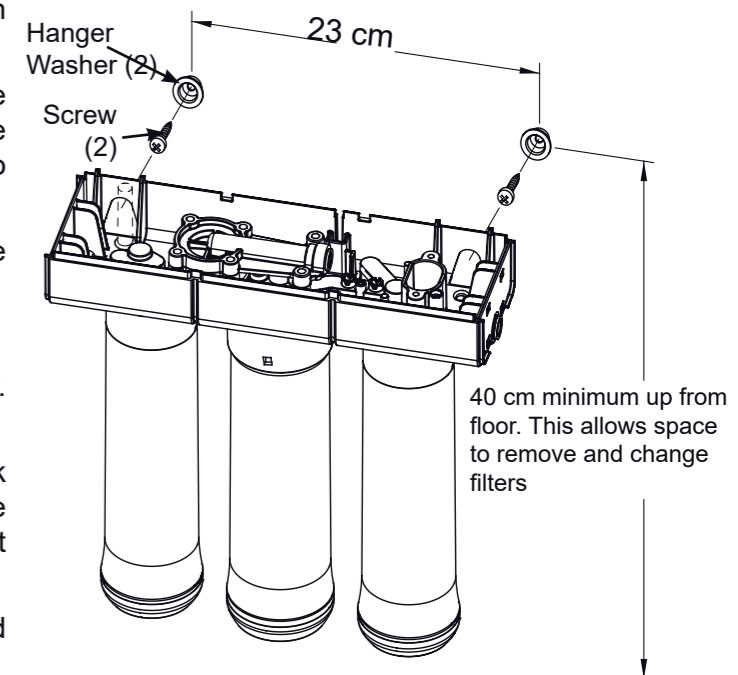

FIG. 10
See Fig 10. The hanger washers allow you to lift the filter assembly from the washers without any hardware removal. When planning your installation, you need to leave room for changing filters.
2. Locate mounting slots on back inside of the assembly. See Fig 10.
3. Hold the assembly up to the wall surface and mark locations for the hanger washers. See Fig 10. Mount the unit high enough to allow room to change filters without taking the unit off of the wall.